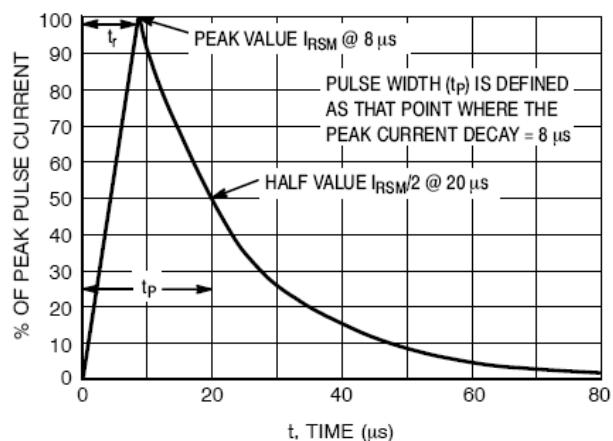

Figure 3. 8*20 μs Pulse Waveform
- Surge current waveform per Figure 3.